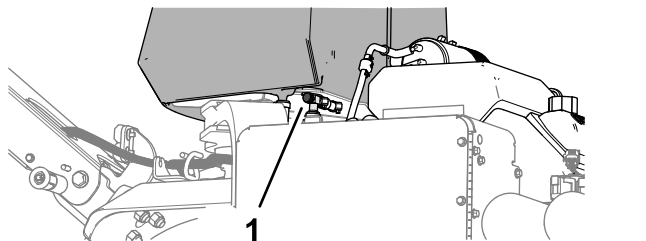

Figure 79
- If you are hauling or storing the machine, close the fuel-shutoff valve (Figure 79).